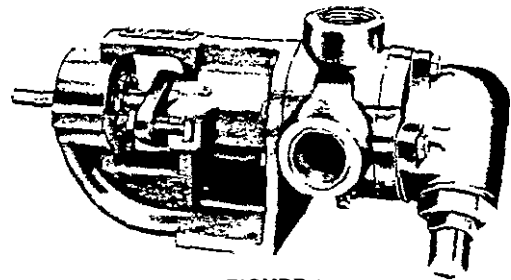

FIGURE 1
This manual deals only with Series 125 and 4125 Heavy-Duty Bracket Mounted Pumps. Refer to Figures 1 thru 19 for general configuration and nomenclature used in this manual. Pump specifications and recommendations are listed in Catalog Section 141. Series 125 and 4125 Heavy-Duty Bracket Mounted Pumps.
4. Relief valve adjusting screw cap must *always* point towards suction side of pump. If pump rotation is reversed, remove pressure relief valve and turn end for end. Refer to Figures 1, 2, 3 and 4.